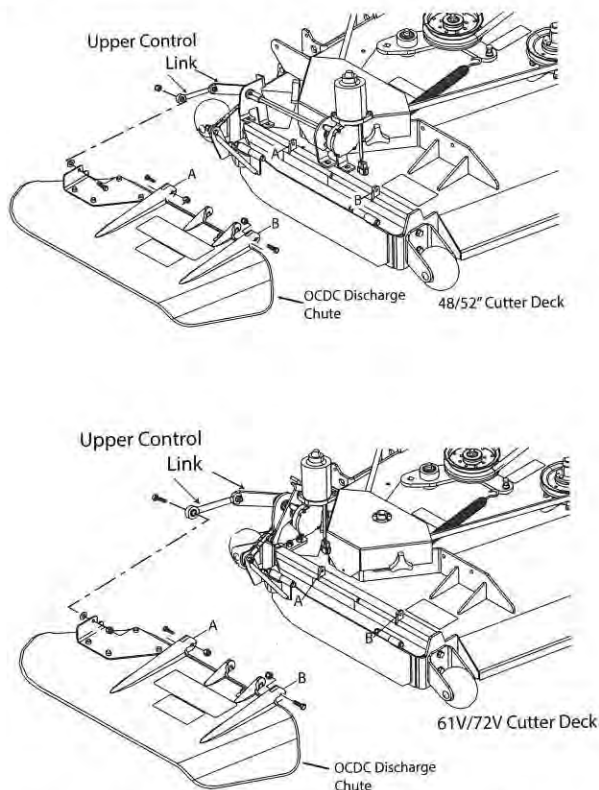

Figure 3-34. Discharge Chute Installation
14. Install the E-OCDC discharge chute to the cutter deck. Secure using two (2) 5/16-18 x 1-3/4" bolts and two (2) 2 5/16-18 elastic stop nuts. See Figure 3-34.
16. Secure the upper control link to the OCDC discharge chute using one (1) 5/16-18 x 1-1/4" bolt and one (1) 5/16-18 elastic stop nut. See Figure 3-34.